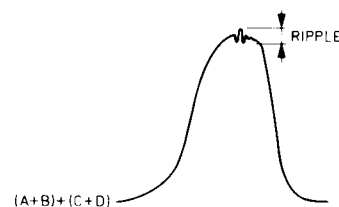

Fig. 8
- The sum signal $(A+B) + (C+D)$ is displayed on the A-channel of the oscilloscope (see Fig. 8).